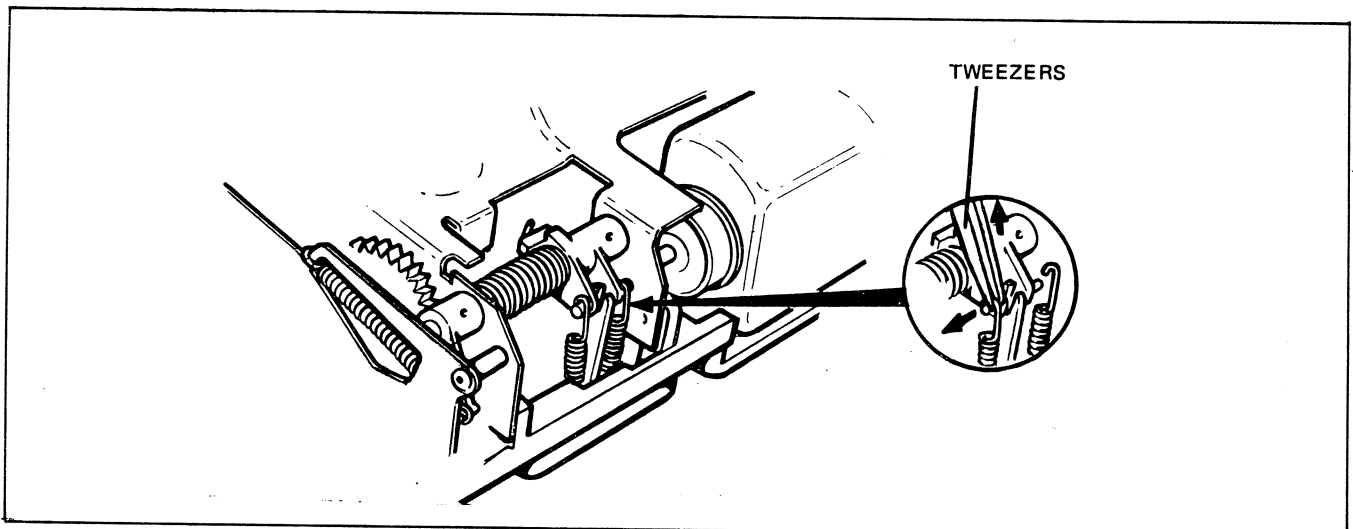

FIGURE 4-35 REMOVING OVERRIDE SPRINGS
8. Refer to Figure 4-35. Use tweezers and remove the two override springs.